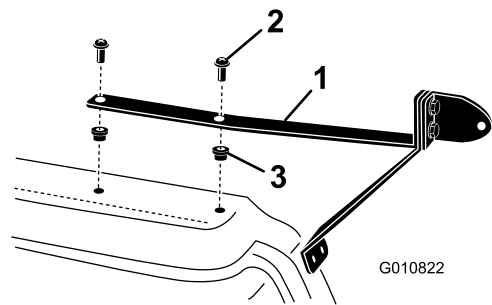

Figure 6
5. Install a nut insert into each of the drilled holes (Figure 6).
6. Secure the upper mirror bracket to the nut inserts using 2 Pan-head screw (1/4 x 1 inch) as shown in Figure 6.